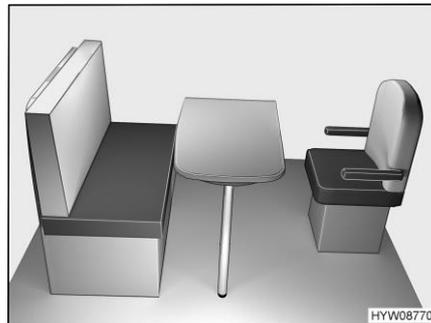

Fig. 78 Prior to conversion
- Turn driver's seat towards the table (Fig. 78).